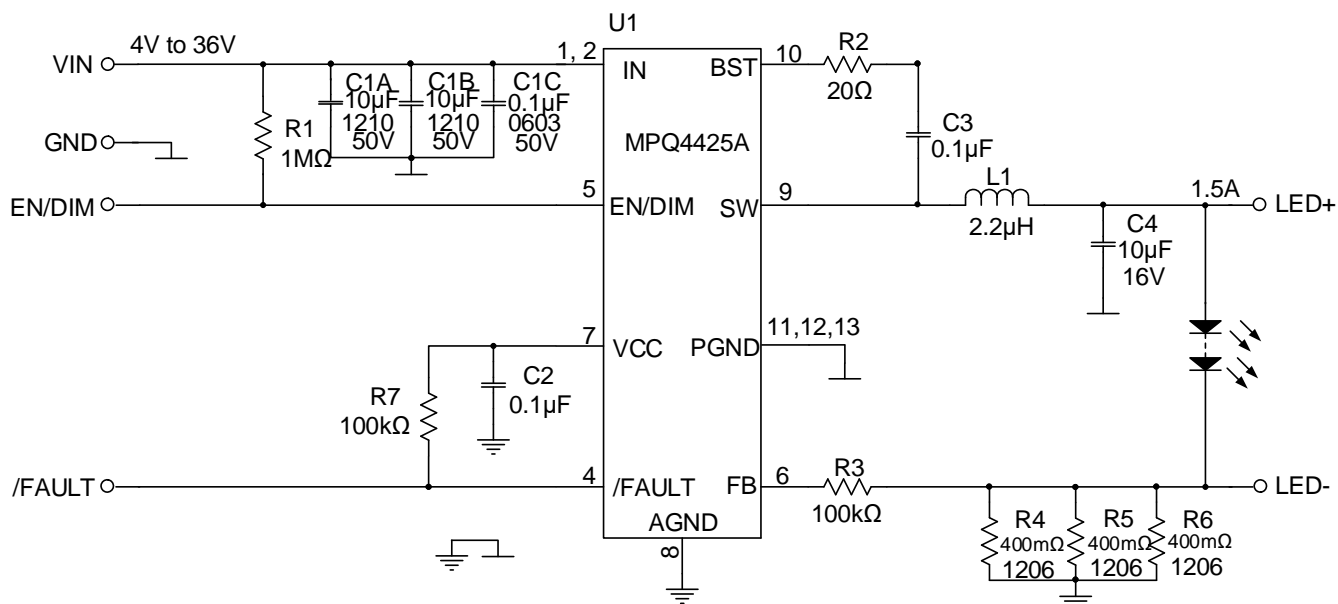

Figure 8: $I_o = 1.5A$ Application Circuit
- 6) The recommended layout is based on Figure 8.